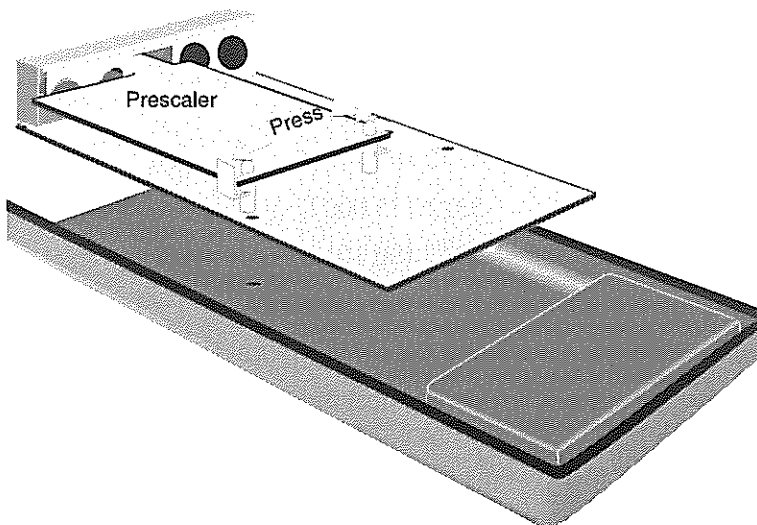

Figure 6-5. Removing the HF-input
4. Press the two plastic clips apart and lift the HF-input from the guide pins. See Figure 6-5.
4. Remove the HF input if it is fitted. See Fig. 6-5.